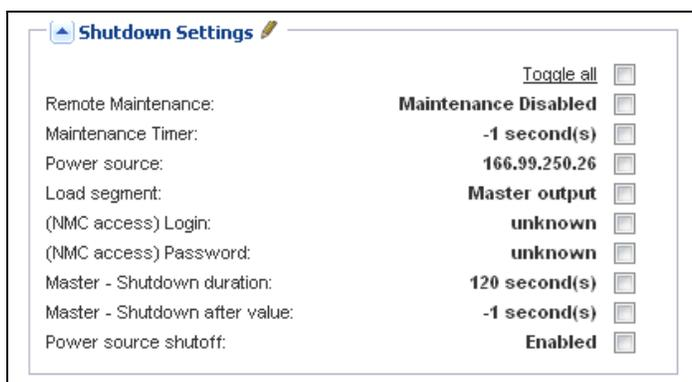

Figure 96. Shutdown Settings for VM Host with Eaton IPP
2. In the Shutdown Settings panel on the right side of the page, select the applicable checkboxes to configure the required parameters (see Figure 96 and Table 9).